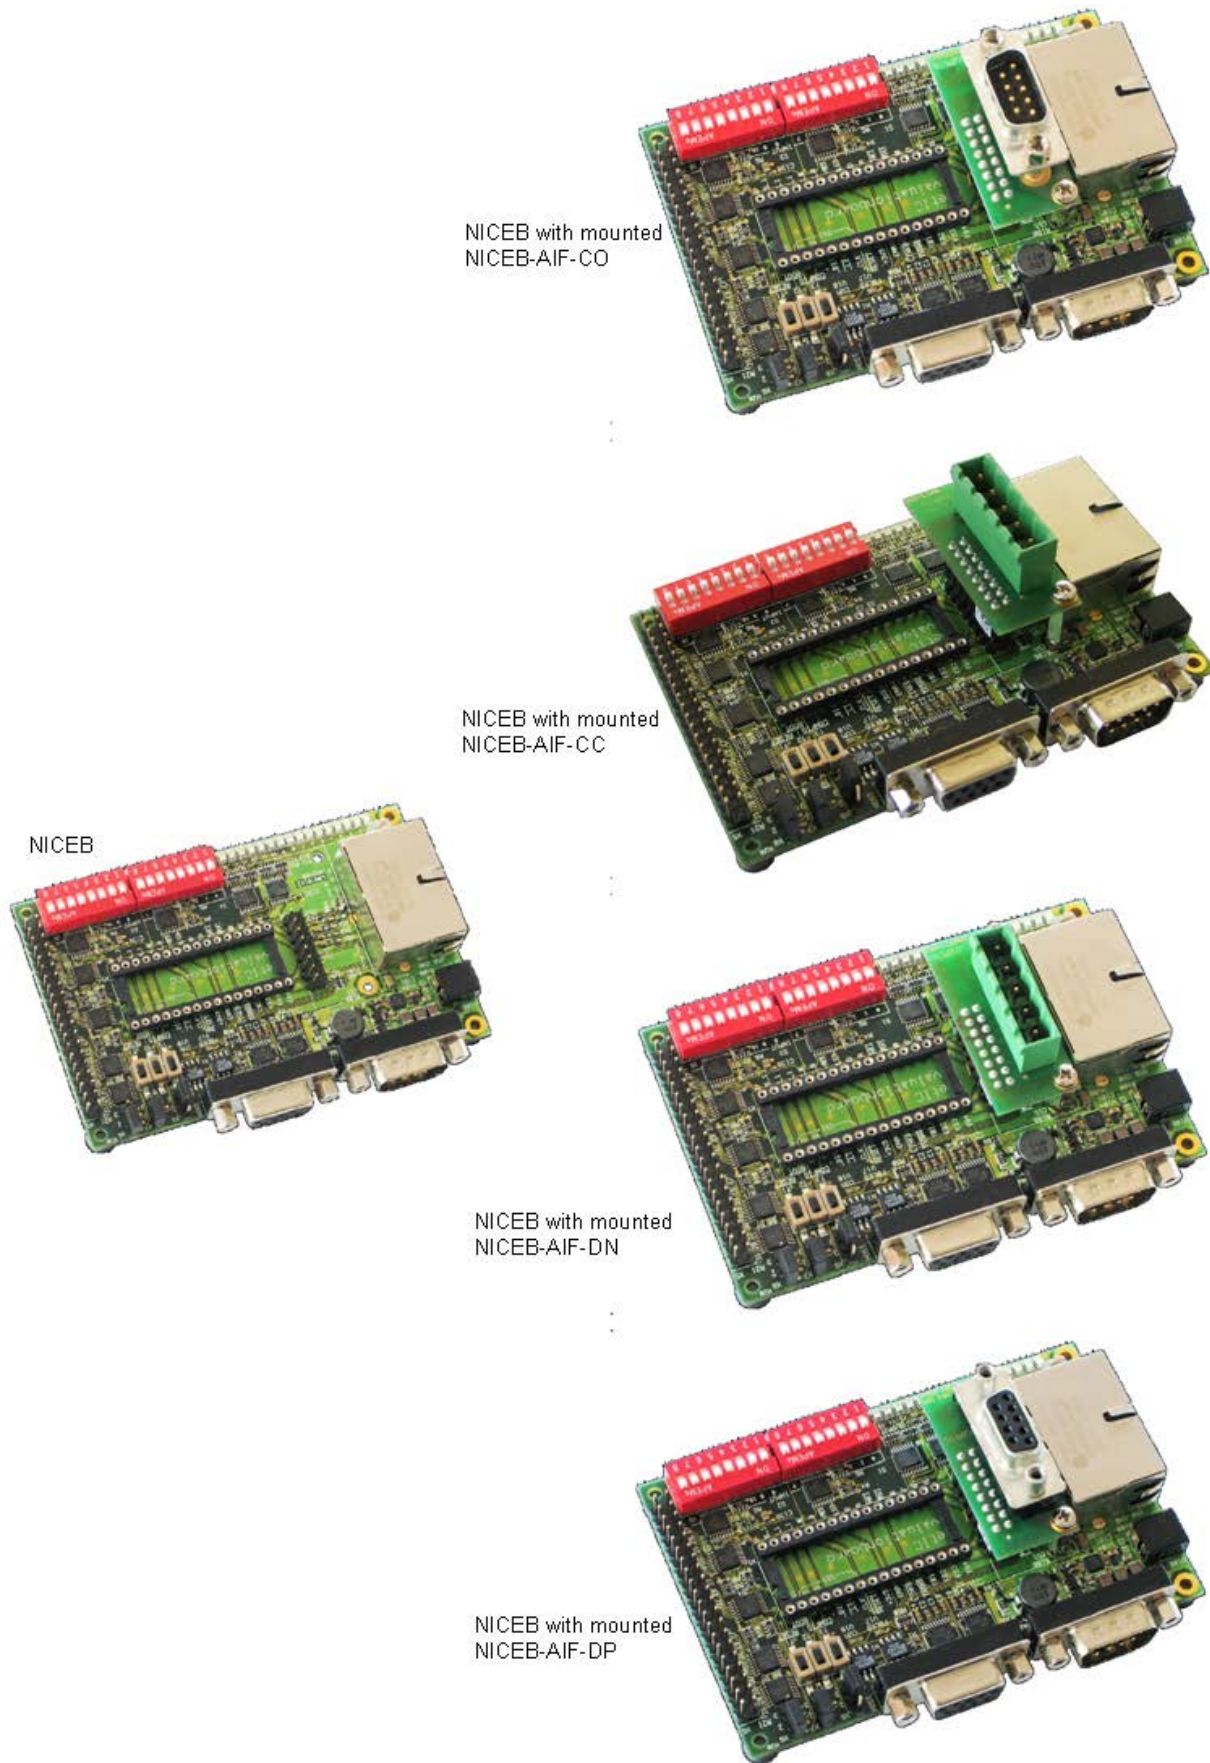

Figure 5: NICEB with Adapter
- Your NICEB Evaluation Board should now look like the left picture in the respective picture row in *Figure 5: NICEB with Adapter* on page 41. (The order in is as follows: CANopen, DeviceNet and PROFIBUS-DP)